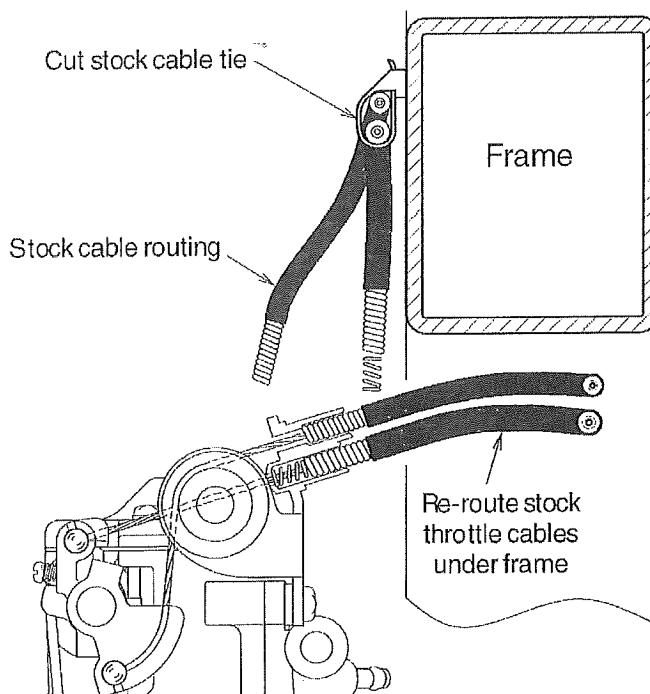

Figure 1
- A. The HSR carburetor uses the stock throttle cables. However, new cable routing is required to prevent cable binding. To re-route the cables you must elevate the rear of the tank. Cut the stock cable tie from the frame, located above the front cylinder. Some models may use sheet metal clips; if so, remove the cables from the clip. Re-route the cables under the frame (Figure 1).